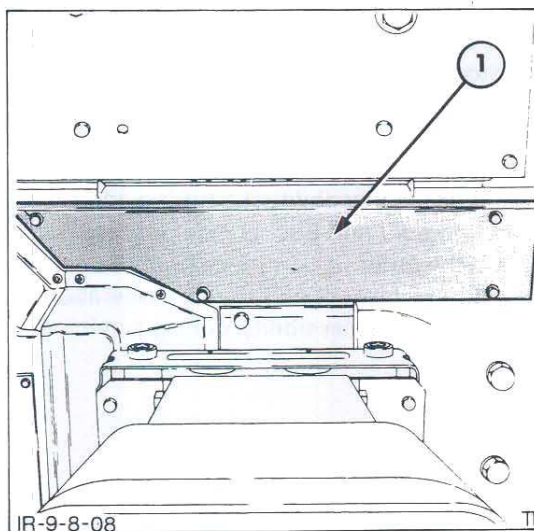

Figure 9
5. Remove the access panels from between the cab floor and the backhoe deck, Figure 9.